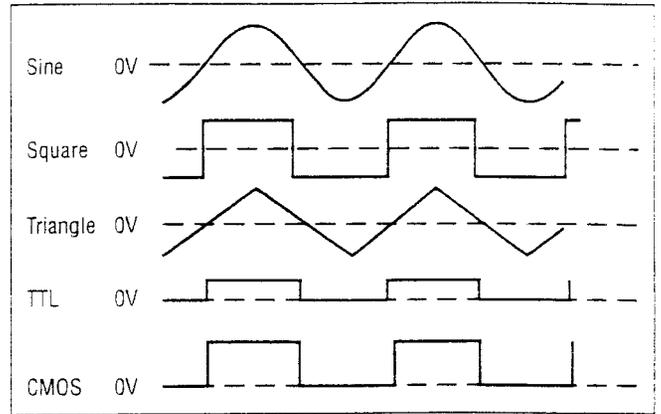

Figure 2. Output Waveform and Phase Relationship
1. Initially, verify that the **DUTY CYCLE** (17), **CMOS LEVEL** (15), **DC OFFSET** (14), **-20dB** (11), and **SWEEP INT/EXT** (12), switches are in the **OUT** position (released). This will produce a symmetrical waveform unaffected by the sweep generator and other controls.
2. Plug the unit into an appropriate power source and turn it on by engaging the **POWER** switch (1).
3. Select the desired waveform (**SINE**, **SQUARE**, or **TRIANGLE**) by engaging one of the **FUNCTION** switches (3). Phase relationships of the waveforms are shown in Fig. 2.
4. Select the frequency of the waveform by depressing one of the **RANGE** switches (2). The output frequency is displayed, along with the appropriate measurement units, **KHz** or **Hz** (23), on the **LED** display.
5. Rotate the **COARSE** (20) frequency control to quickly set the output frequency to the approximate desired value. The **FINE** (19) frequency control can then be used to easily set the output to the specific desired value. The frequency selected is available at the **OUTPUT** jack (6). In addition, a digital signal, either **TTL** or **CMOS** is